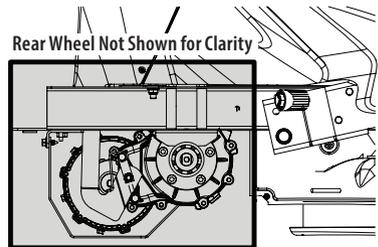

Figure 15
- Clean around and near the transmission and axle (Figure 15).